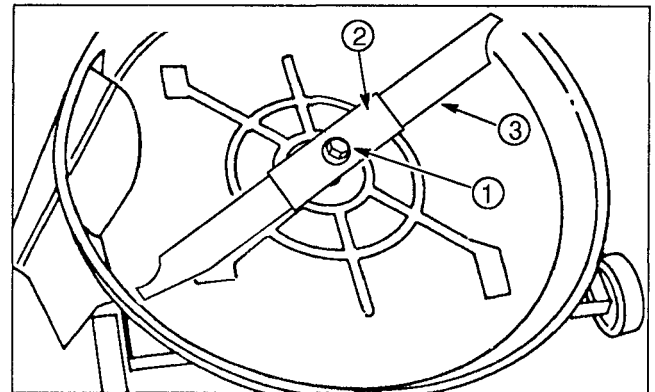

Figure 21
6. Grasp end of blade using a rag or thickly padded glove; then remove blade bolt, washer, blade stiffener and blade (Fig. 21).
9. In sequence, install blade, blade stiffener, washer and blade bolt (Fig. 21). Tighten blade bolt to 45-60 ft-lb (61-81 N·m).
7. Since rider is tipped on end, check condition of blade (Fig. 21).